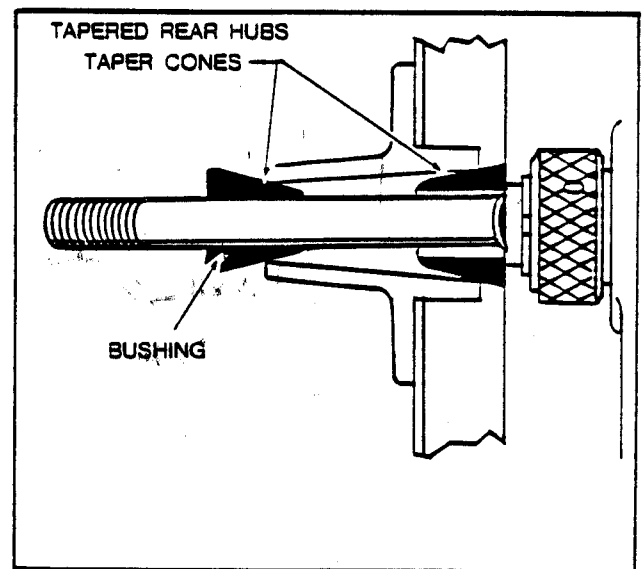

Figure 3
2. Select the taper cones to fit the inner and outer bearing cups in the front or rear wheel hub, Figs. 3 and 4.